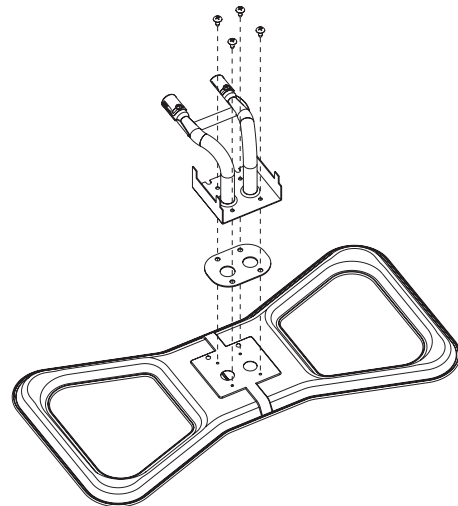

Figure 19
3. Lay the burner face down and remove the four retaining screws from the venturi tube plate and the burner. See **Figure 19**.